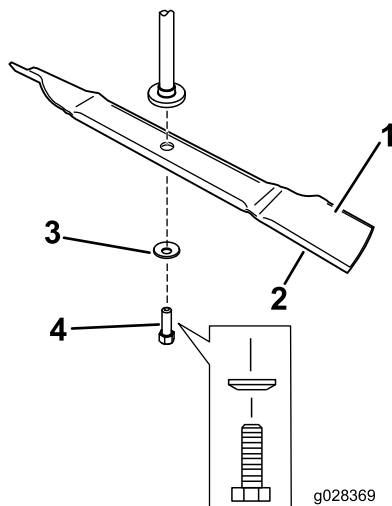

Figure 8
- Install the blade onto the spindle shaft (Figure 8).
- Install the curved washer (cupped side toward the blade) and the blade bolt (Figure 8).
Note: Do not install a blade stiffener. These blades do not require the blade stiffener (Figure 8).